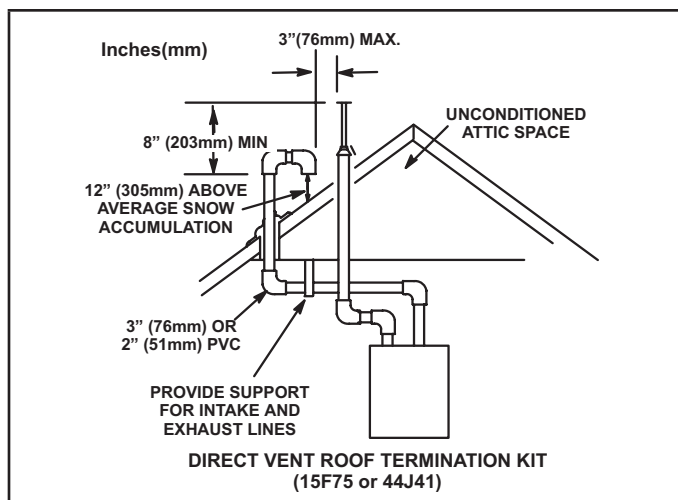

FIGURE 34
Intake and exhaust pipes may be routed either horizontally through an outside wall or vertically through the roof. In attic or closet installations, vertical termination through the roof is preferred. FIGURE 34 through FIGURE 42 typical terminations.
- 3 - On roof terminations, the intake piping should terminate straight down using two 90° elbows (FIGURE 34).